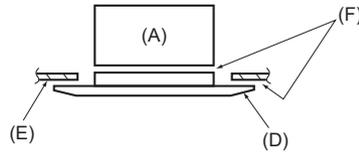

Fig. 6-8
- \* Make sure that there are no gaps between the main unit and the grille or the grille and the ceiling. (Fig. 6-8)
- (A) Main unit
- (B) Electric component box
- (C) Screw with washer (Accessory)
- (D) Grille
- (E) Ceiling
- (F) Make sure that there are no gaps.
- (G) Temporary hanging hooks on the panel